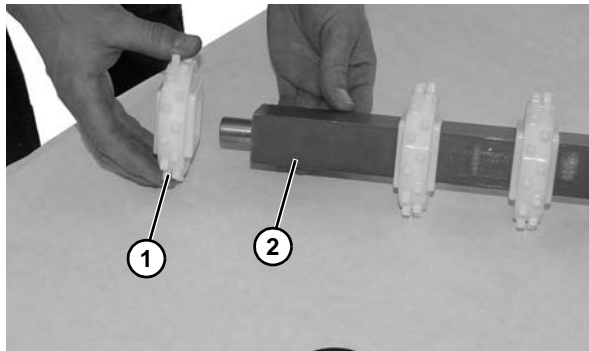

Figure 59
- Remove sprockets (**Figure 59, item 1**) off the drive spindle (**Figure 59, item 2**). Inspect and replace if worn.